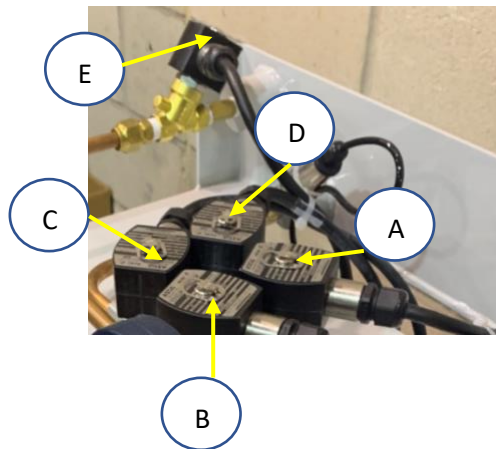

Figure 8-19: Control Valves
5.	<p>Check the Control Valves</p> <ul style="list-style-type: none">Control Valve Operation Check – See Figure 8-19.Check the operation of the control valves (A thru E) to see if any of the control valves have malfunctioned. A malfunctioned control valve may cause the Vacuum Pump motor to trip out on thermal overloads.Purpose of the Test<ul style="list-style-type: none">The purpose of this test is to check to see if there is power at the control valves and the control valves are working properly.This test is also used for the Leak Test.Preparation<ul style="list-style-type: none">Make sure power is ON to the VST Control Panel.At the Main Screen, push the Maintenance button to access the Password Screen.Enter the password 878 to access the Maintenance Screen.The GREEN MACHINE is now in the OFF mode and will not operate.Push the Clear Motor Alarm button to reset the motor alarm. Without resetting the alarm, you will not be able to do the next step.